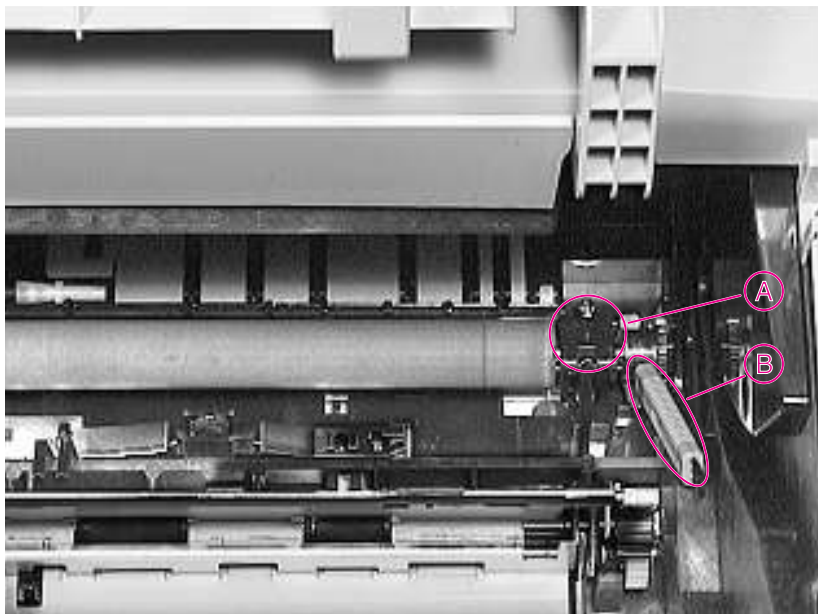

Figure 6-21 Right Side of Transfer Roller
- 2 Free the Transfer Roller from the hinged clip by lifting straight up using the blue cleaning brush located inside of the top cover (Figure 6-21).